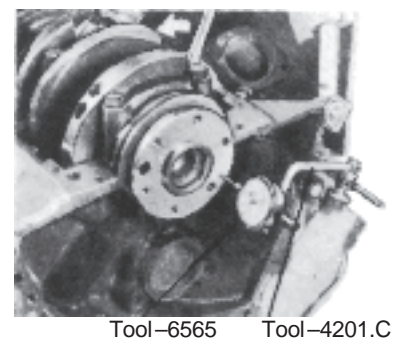

Fig. 15 Checking Crankshaft End Play
2. Install a dial indicator so that the contact point rests against the crankshaft flange and the indicator axis is parallel to the crankshaft axis (Fig. 15).